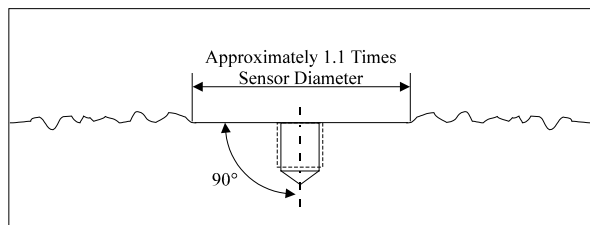

Figure 2. Mounting Surface Preparation
STEP 1: First, prepare a smooth, flat mounting surface, then drill and tap a mounting hole in the center of this area as shown in Figure 2 and in accordance with the **Installation Drawing** for the specific sensor that is being mounted.